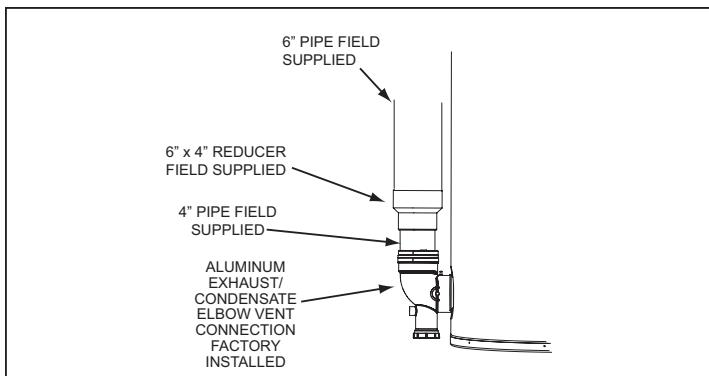

Figure 15. Vent Exhaust Connection
- If installing 6 inch pipe transition to 4 inch pipe as shown in *Figure 15*. The field-installed 4" pipe between the exhaust elbow and the 6" x 4" reducer coupling should be 18 inches (45 cm) or less in length.
- If installing 6 inch vent pipe transition to 4 inch pipe at the exhaust elbow on the water heater as shown in *Figure 15* (page 28). The field-installed 4" pipe between the exhaust elbow and the 6" x 4" reducer coupling should be 18 inches (45 cm) or less in length.